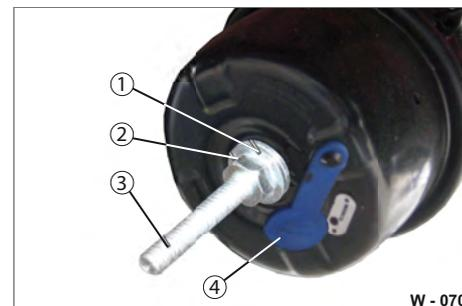

Fig. 68 Releasing spring tension
- ▶ Slide on the washer (Fig. 68/1).
- ▶ Screw the hexagonal nut (Fig. 68/2) onto the release screw (Fig. 68/3).
- ▶ Unscrew the hexagonal nut (Fig. 68/2).
- ▶ Remove the washer (Fig. 68/1).
- ▶ Turn the release screw (Fig. 68/3) 90° and remove it.